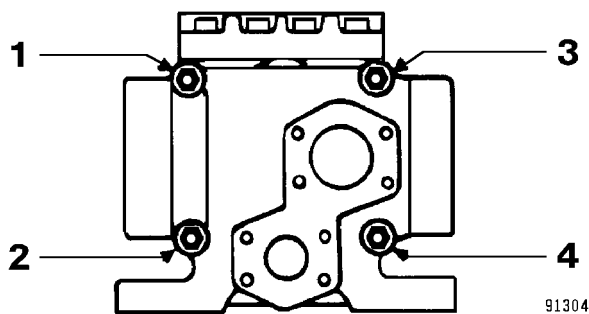

FIGURE 8-4. TIGHTENING SEQUENCE
5. Use a torque wrench to tighten the nuts in the pattern shown in Figure 8-4. Tighten the tie rod nuts evenly in the following sequence: